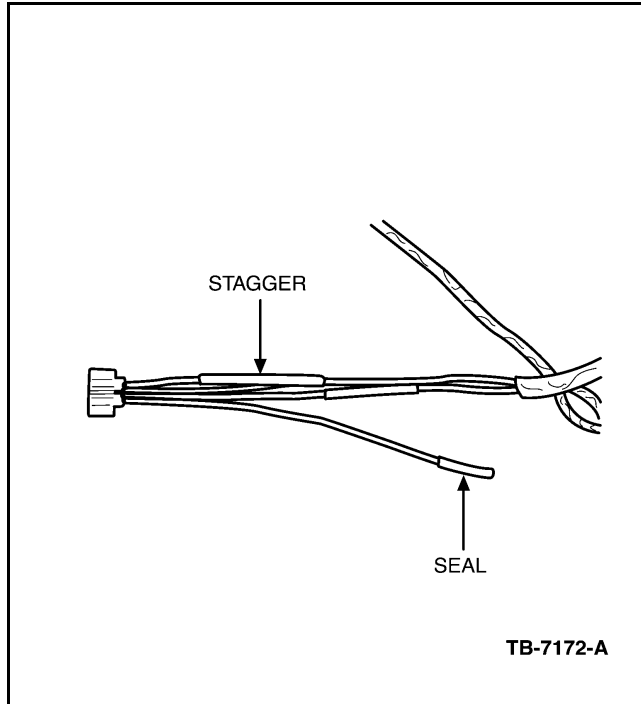

Figure 1 - Article 04-3-2
1. Strip 6.35 mm (1/4") of insulation from pigtail wire end unless butt connector is already supplied on the pigtail. Wire stripping must be done so that the splices are staggered at least 25.40 mm (1") apart (Figure 1). Take care not to nick or cut wire strands. Pull wire straight from stripper. If wire is pulled at an angle, wire strands may be cut off. If more than one (1) strand is cut off during stripping, cut off the end and re-strip.